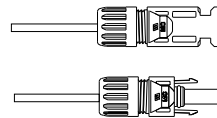

Figure 5.16 Connector with cap nut screwed on
4. Insert metal connector into top of connector, and tighten nut with torque 2.5-3 Nm (see figure 5.16).